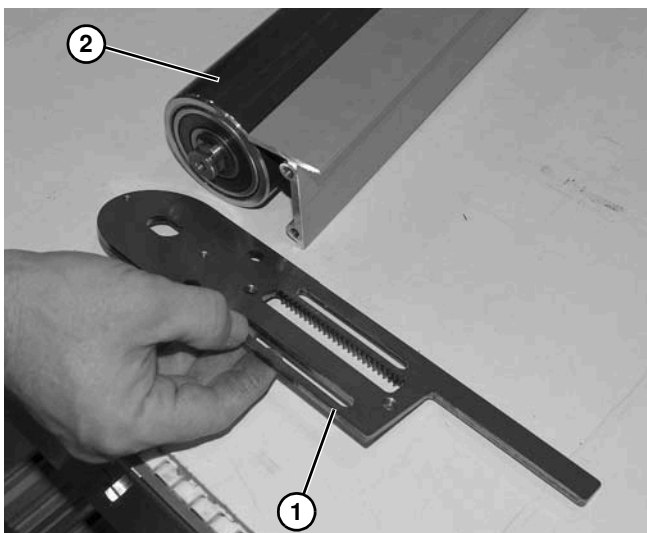

Figure 112
12. Remove tension tail plate (**Figure 112, item 1**) from pulley (**Figure 112, item 2**).